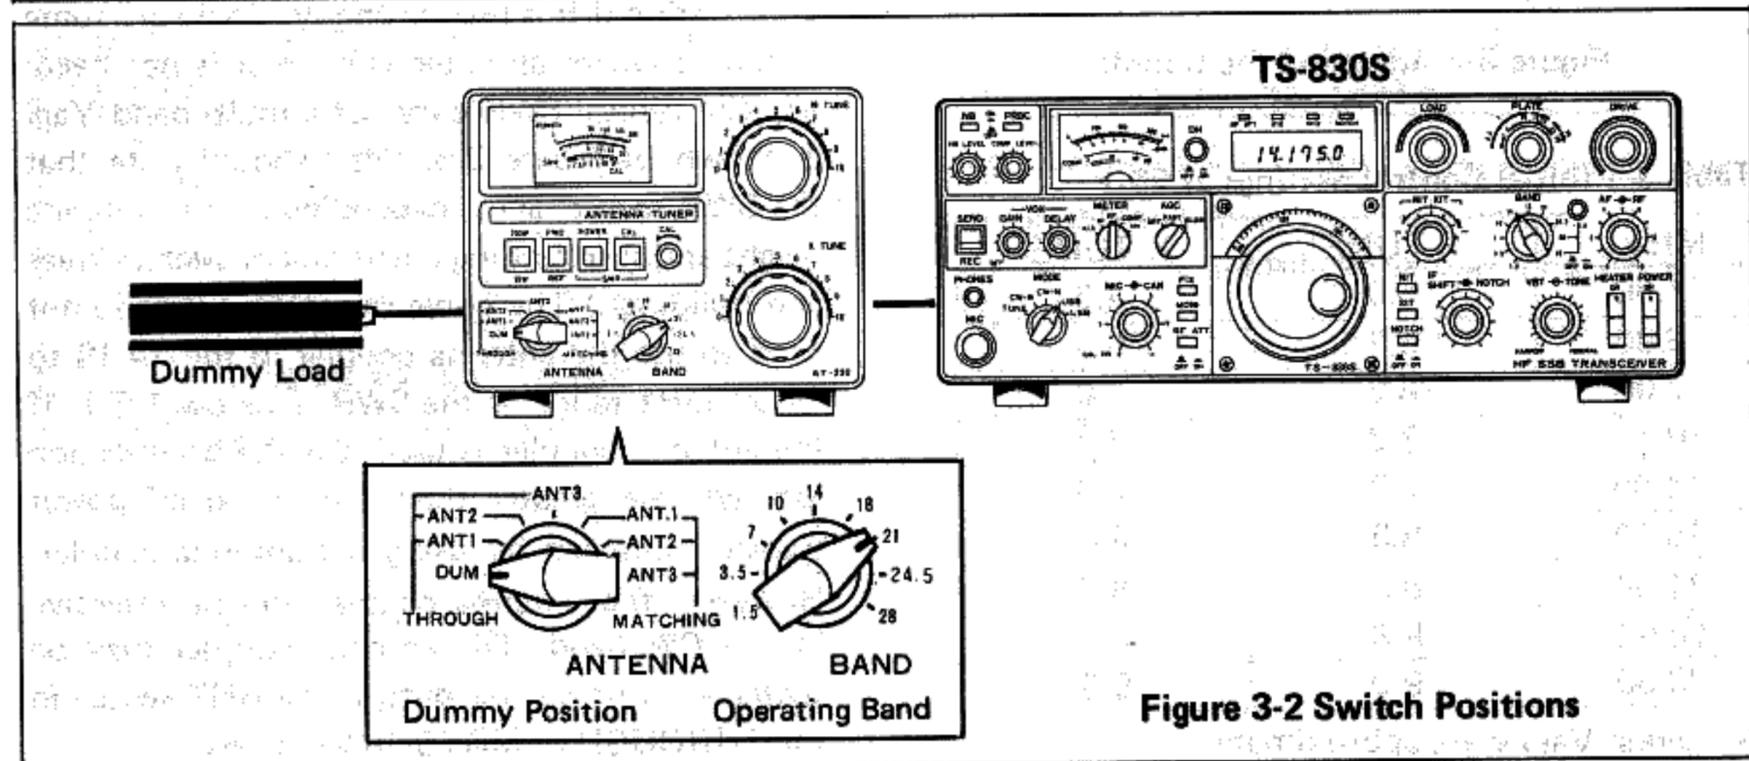

Figure 3-2 Switch Positions
- A. Set the ANT switch to the DUM position as shown in Figure 3-2.